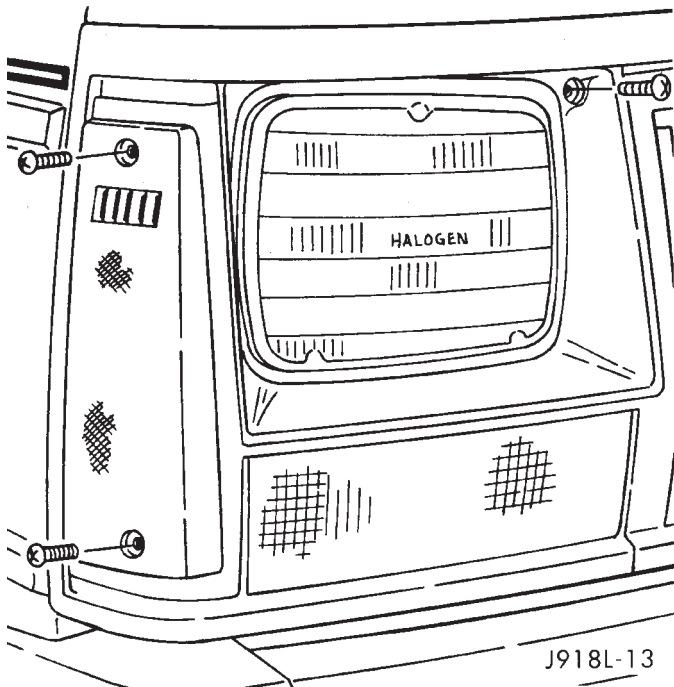

Fig. 19 Headlamp Bezel & Side Marker Lamp—XJ Vehicles
- (1) Remove the headlamp bezel screw and the side marker lamp lens/housing screw (Fig. 19).
- (1) Install a replacement bulb in the socket.
- (2) Install bulb and socket in the lamp housing.
- (3) Position the park/turn signal lamp housing on the headlamp bezel.
- (4) Install lamp housing screws. Tighten the screws.
(5) Install the outer screws in the headlamp bezel. Tighten the screws.
(6) Position the side marker lamp lens/housing on the headlamp bezel.
(7) Install side marker lamp lens/housing screws and headlamp bezel (Fig. 19). Tighten the screws.